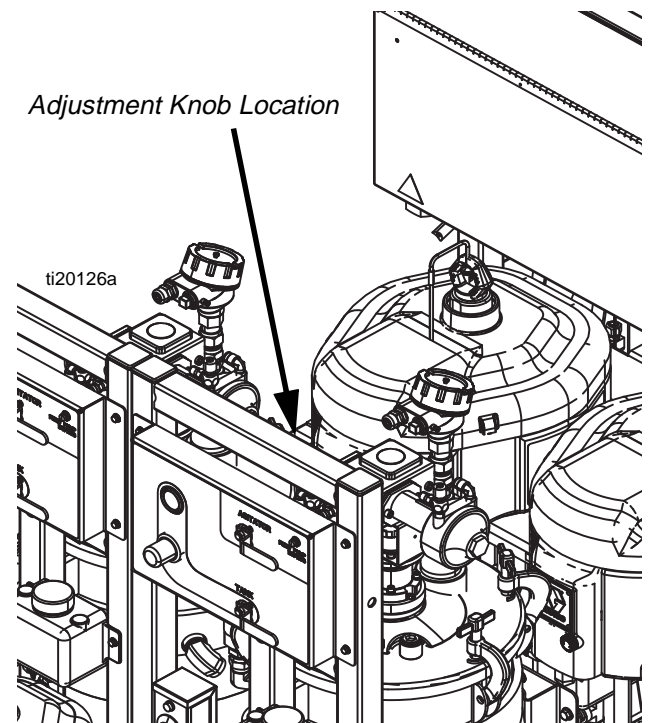

FIG. 28
3. Adjust the silver knob located just above the **Feed Module Air Controls**. When looking at the Feed Module Air Controls, the knob will be visible just above them. See FIG. 28. Adjust knob until tank heated fluid pump reaches approximately 2-3 cycles per second.